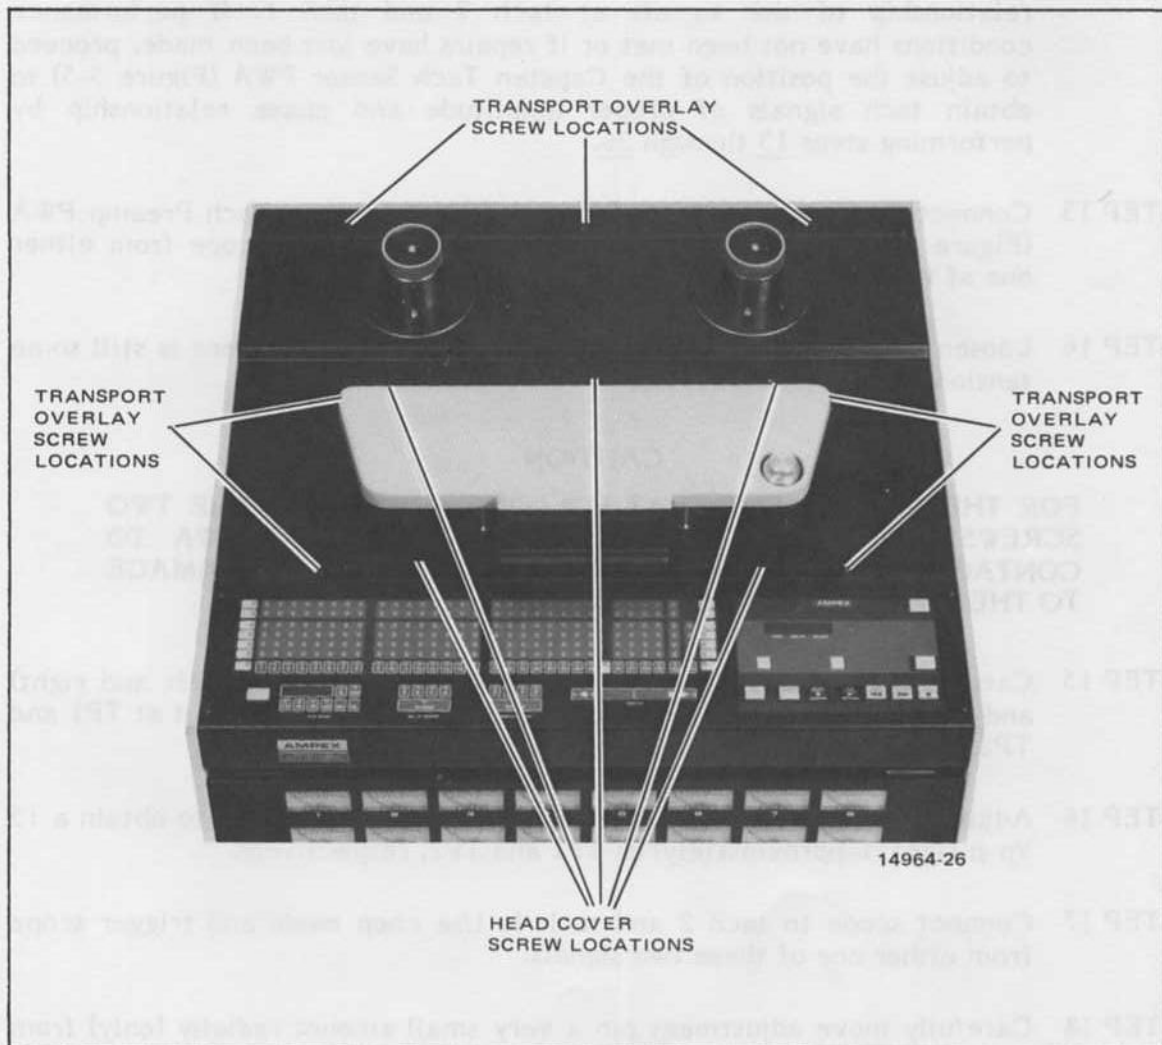

Figure 5-6. Removal of Transport Overlay Panel and Cover Assembly
- STEP 2 Remove head cover assembly by taking out the five mounting screws (Figure 5-6).
- STEP 1 Remove head cover assembly by taking out five mounting screws (Figure 5-6).
- STEP 2 Remove transport top overlay panel from top of transport by removing seven buttonhead screws with black nylon washers (Figure 5-6).
- STEP 2 Remove transport overlay panel from top of transport by removing seven buttonhead screws with black nylon washers (Figure 5-6).
- STEP 2 Remove transport top overlay panel from top of transport by removing seven buttonhead screws and black nylon washers (Figure 5-6).